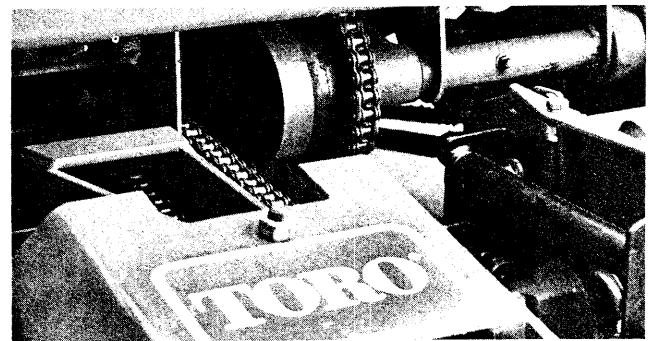

Figure 46
1. Locate adjusting screw below brake lever assembly (Fig. 46).